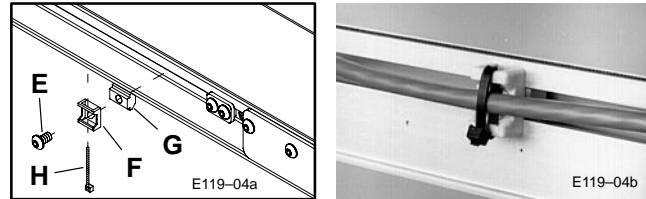

Figure 4: Zip Tie Mounting Detail
- d. To route Cable over a previously mounted component or to anchor Cable, use Zip Tie Mounts (F) and Single Drop-in T-bars (G), (Figure 4). Secure each Zip Tie Mount (F) with an M6 x 10 mm Button Head Cap Screw (E). Tighten the Screws with the 4 mm Hex Key Wrench (C) provided.